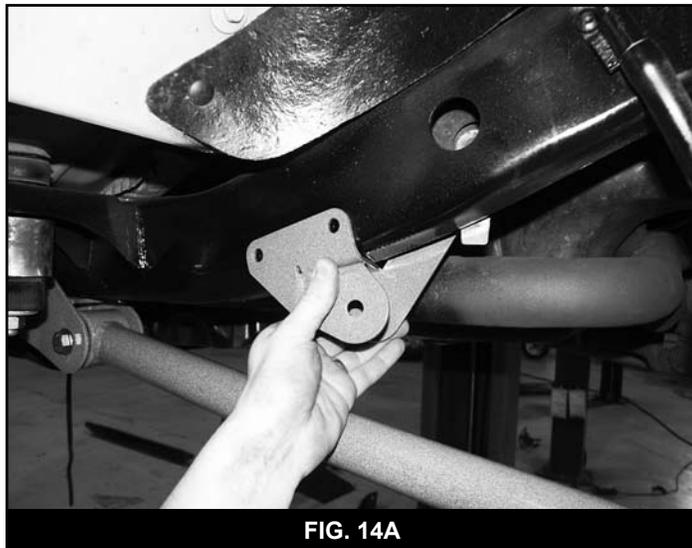

FIG. 14A
39. Complete the upper control arm bracket install one side at a time. Loosely install the provided upper control arm drop bracket (01387-pass, 01388-drv) to the OE upper control arm pocket with a 10mm x 35mm bolt, 3/8" USS washer (BP 731) and the OE nut tab. The bracket will run from the outer portion of the OE pocket down to the frame and wrap around to the outside surface of the frame (Fig 14A, B). Adjust the bracket so that it is flush to the bottom and outside surfaces of the frame. Using the bracket as a template, mark the 3 mounting holes to be drilled. Allow the bracket to swing down out of the way.